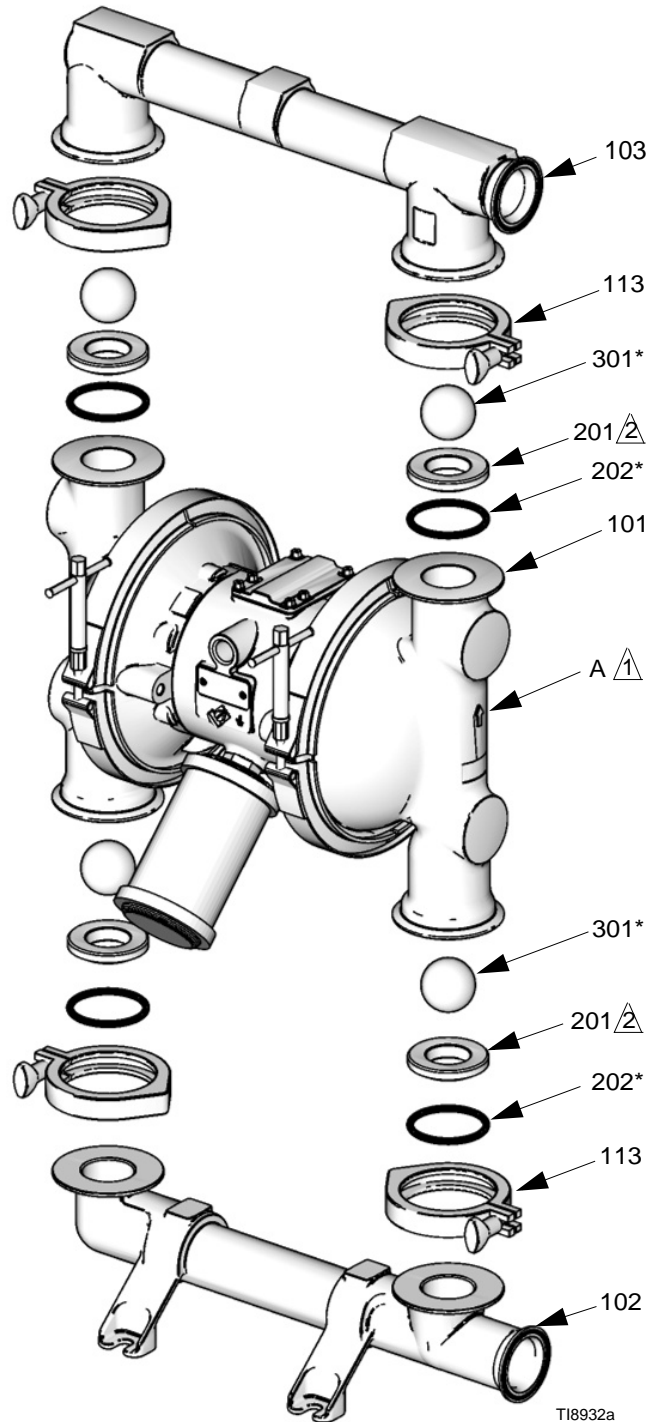

FIG. 9
- To ensure proper seating of the balls (301), always inspect the seats (201) when replacing the balls. Replace seats as necessary if seating surface shows evidence of wear. Also, replace the o-rings (202) as necessary. PTFE o-rings should be replaced every time manifolds are removed.
3. Remove the clamps (106) holding the outlet manifold (103) to the fluid covers (101). See FIG. 9.
4. Remove the o-rings (202), seats (201), and balls (301) from the manifold (103).
5. Turn the pump over and remove the inlet manifold (102). Remove the o-rings (202), seats (201), and balls (301) from the fluid covers (101).
2. Reassemble in the reverse order, following all notes in FIG. 9. Be sure the ball checks and manifolds are assembled **exactly** as shown. The arrows (A) on the fluid covers (101) **must** point toward the outlet manifold (103).
- △1 Arrow (A) must point toward outlet manifold (103)
- △2 Radiused seating surface must face the ball (301). Large chamfer on O.D. must face o-ring.